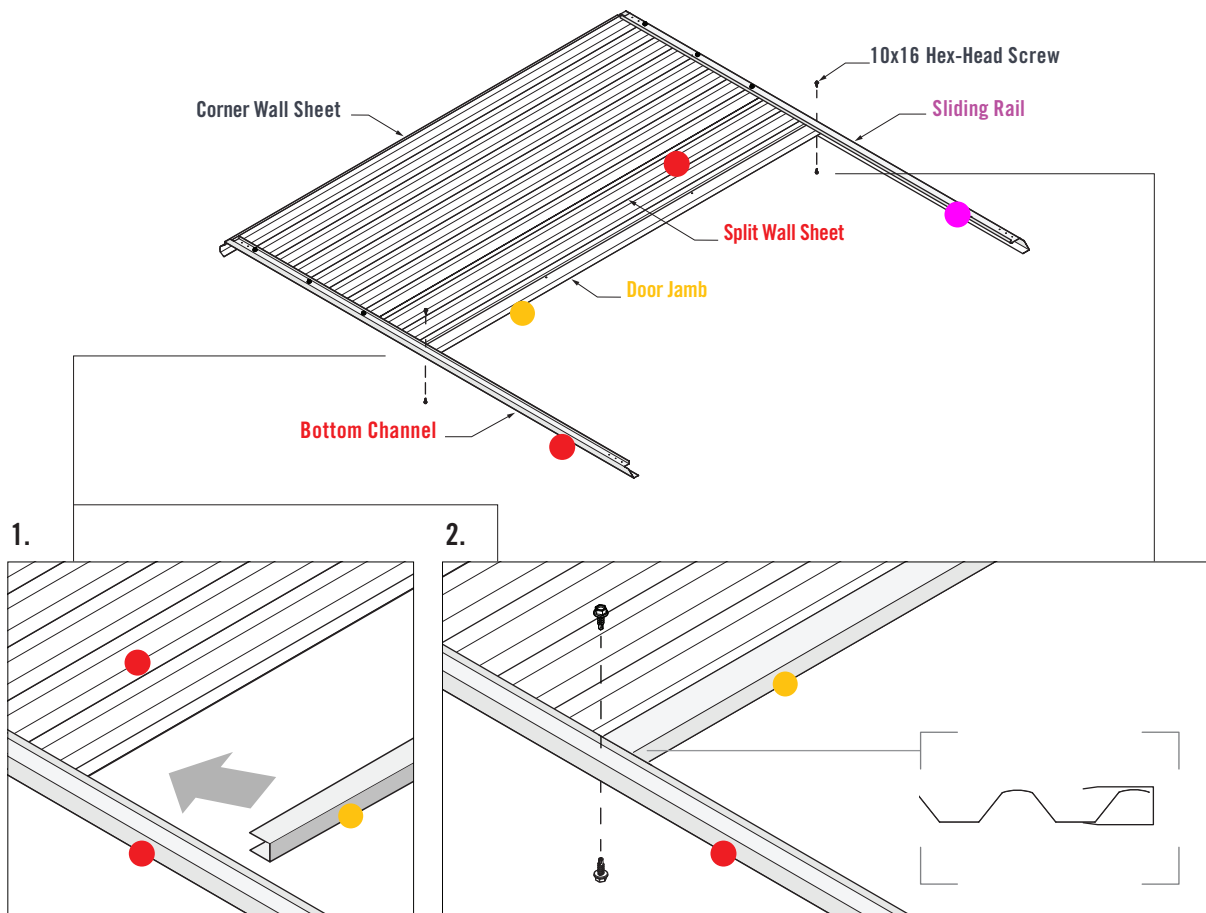

FIGURE 4.3
1. Fit the **Door Jamb** over the Corner Wall Sheet, ensuring it is inside the **Bottom Channel** and **Sliding Rail** (Figure 4.3).
2. Fasten two 10x16 Hex-Head Screws through the pilot holes of the **Sliding Rail** and into the **Door Jamb**. Fasten two 10x16 Hex-Head Screws through the **Bottom Channel** and into the **Door Jamb** (Figure 4.3).